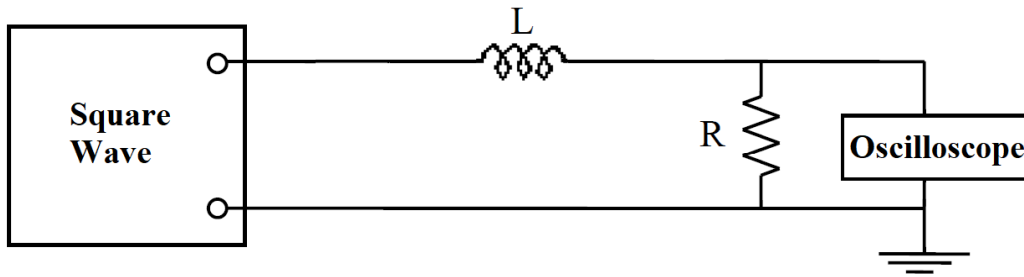

Figure 6.2
2. For Fig. 6.2, do your theoretical calculations and sketch the waveforms of $V_L(t)$ and $V_R(t)$ roughly. Compare your theoretical and simulated voltage waveforms, and comment on differences.
2. Build the circuit given in Fig.6.2. ($R=68\Omega$, $L=1\text{mH}$)